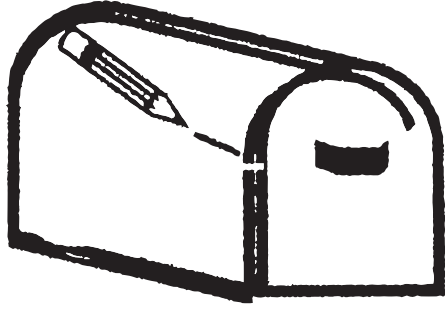

Figure 1
1). MAILNUT 3X™ and 3M Dual Lock™ mounting pads are to be attached on the inside wall of the mailbox opposite the postal flag at the highest point with a flat surface. (See Figure 1 on back of this page).